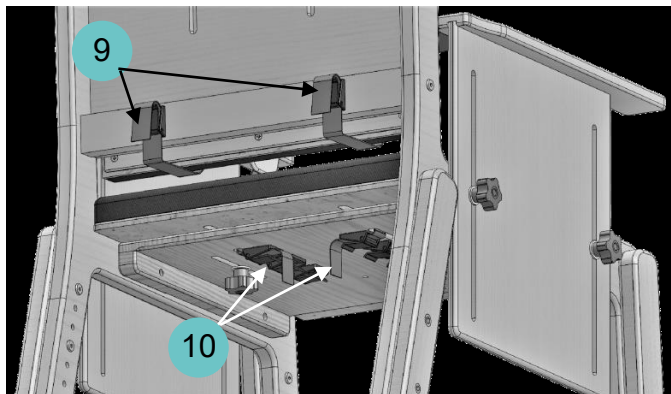

Figure 10
- Then feed these ends through the relevant cam-locks located underneath the base (Ref. 10 of Figure 10).
- Feed these ends through the cam-locks located on the lower back of the chair (Ref. 11 of Figure 10).